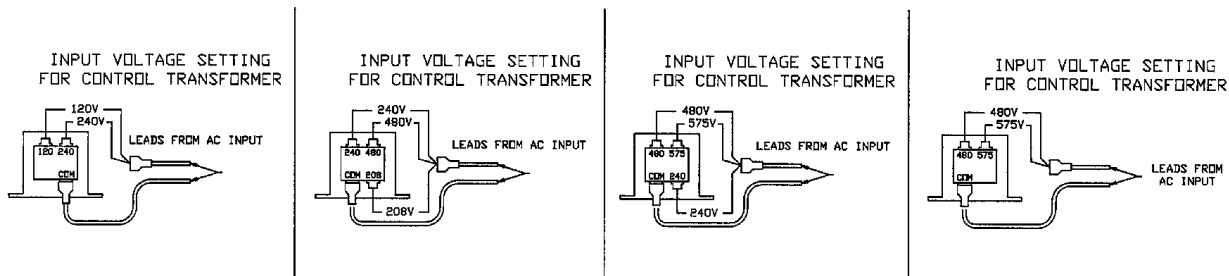

FIGURE 8.2.2A, B, C, D
6. Locate the Control transformer. Change the primary input connection in accordance with the voltage printed on the transformer. (Refer to FIGURE 8.2.2A through D.)